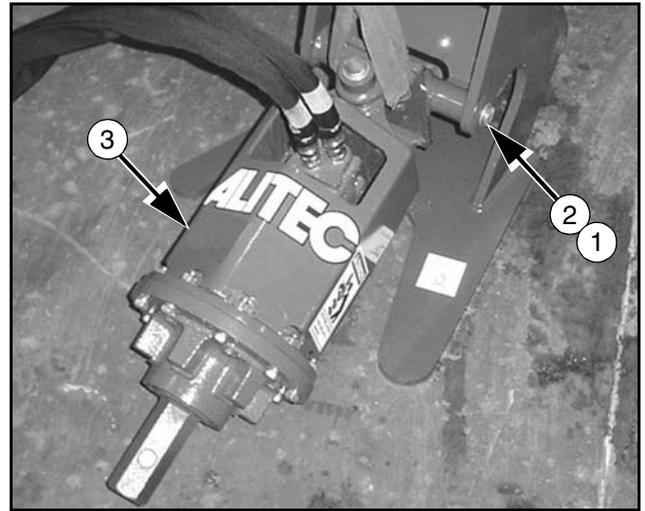

Figure 18. Backhoe
1. Lower the head assembly (3) on to the backplate as shown in Figure 18.
2. Install the clevis pivot pin (1) and snap rings (2).